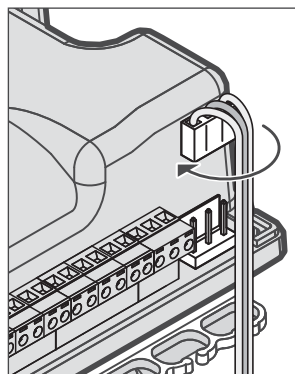

Fig.25
**PRETTY.A** is supplied with the M1 quick coupling positioned by default for functioning on the right leaf. If it is installed on the left leaf, remove the coupling M1, turn it by 180° and re-insert it (fig. 25).